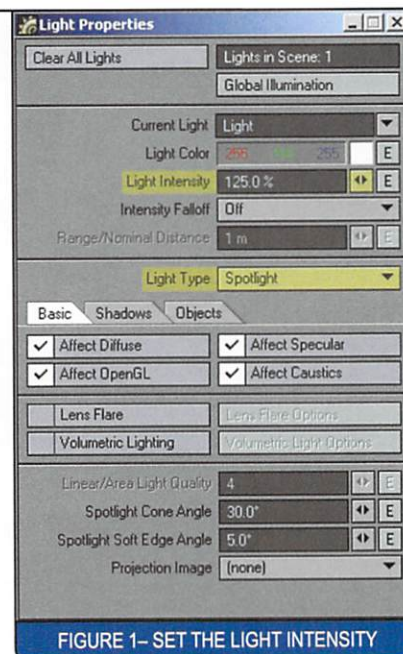

FIGURE 1—SET THE LIGHT INTENSITY
3. Select Lights (L), Properties (P), and then change the Light Type from Distant to Spotlight and the Light Intensity to 125%. You must manually enter the number 125, because the arrows default to 0 - 100%. *SEE FIGURE 1.*